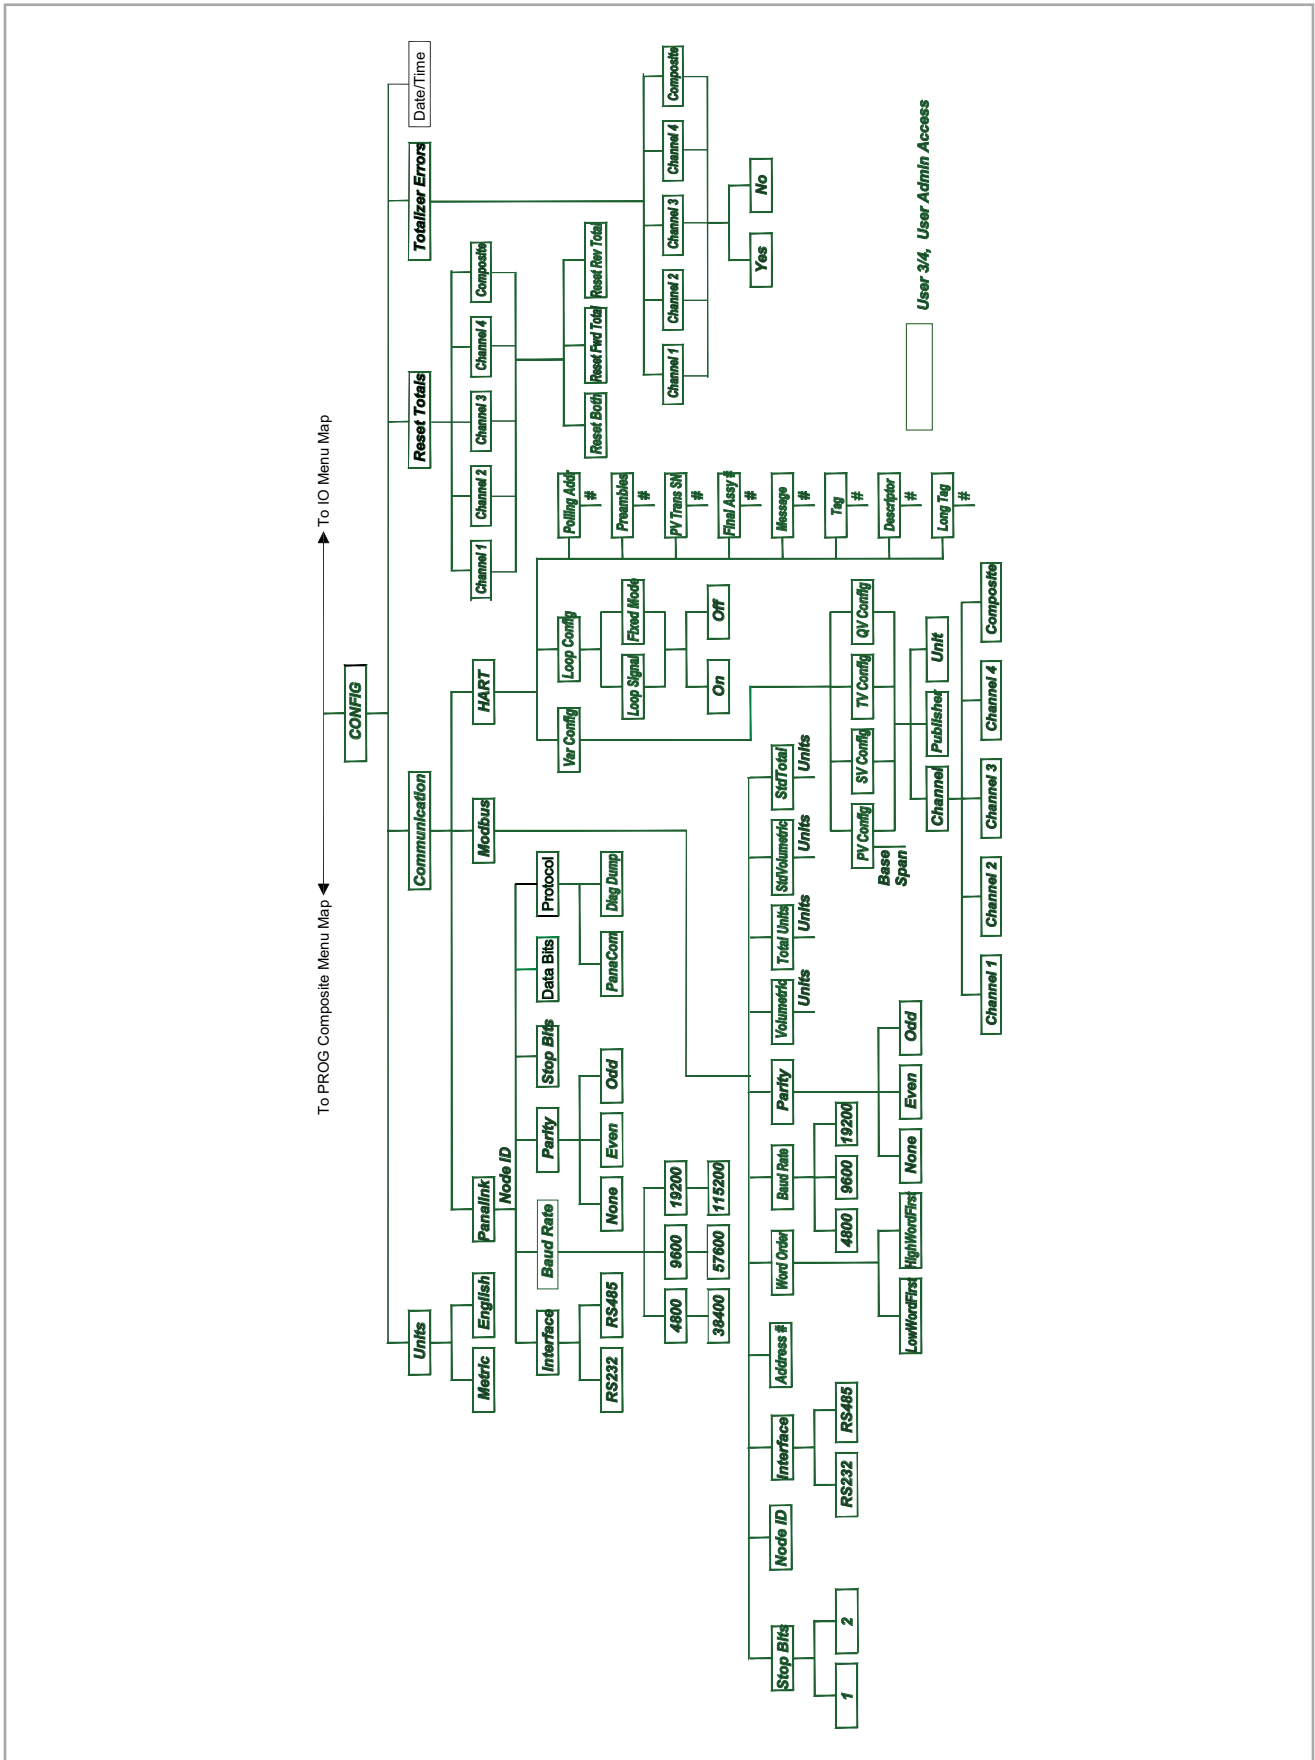

Figure 68: CONFIG menu map
- Figure 68, "CONFIG Menu Map," on page 94